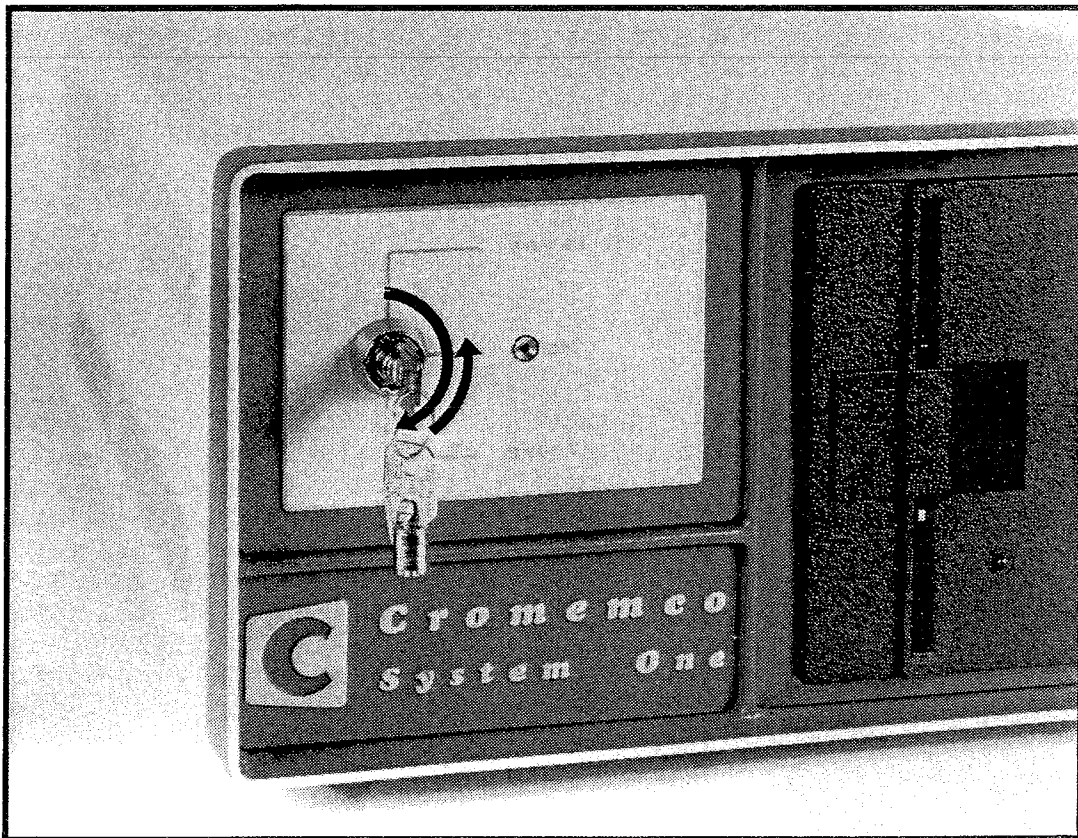

Figure 3-1: TURNING THE KEY
1. Turn the key on the System One to the RESET position and then allow it to return to the ON position. You may have to push in slightly on the key to get it to turn. Refer to Figure 3-1. If you are not using a Cromemco 3102 terminal, you will need to depress the **RETURN** key on the terminal several times until the following message appears on the screen: